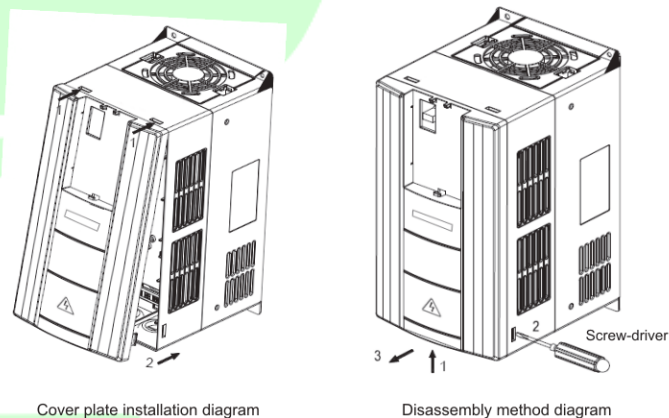

Figure 3-1 Installation diagram
- 1) Install the inverter vertically so that the heat may be expelled from the top. However, the equipment cannot be installed upside down. If there are multiple inverters, parallel installation is a better choice. In applications where the upper and lower inverters need to be installed, please refer to Figure 3-1 "NG80 Series Inverter Installation Diagram" and install an insulating splitter.
- 2) The mounting space should be as indicated as Figure 3-1, so as to ensure the heat dissipation space of the inverter. However, the heat dissipation of other devices in the cabinet should also be taken into account.